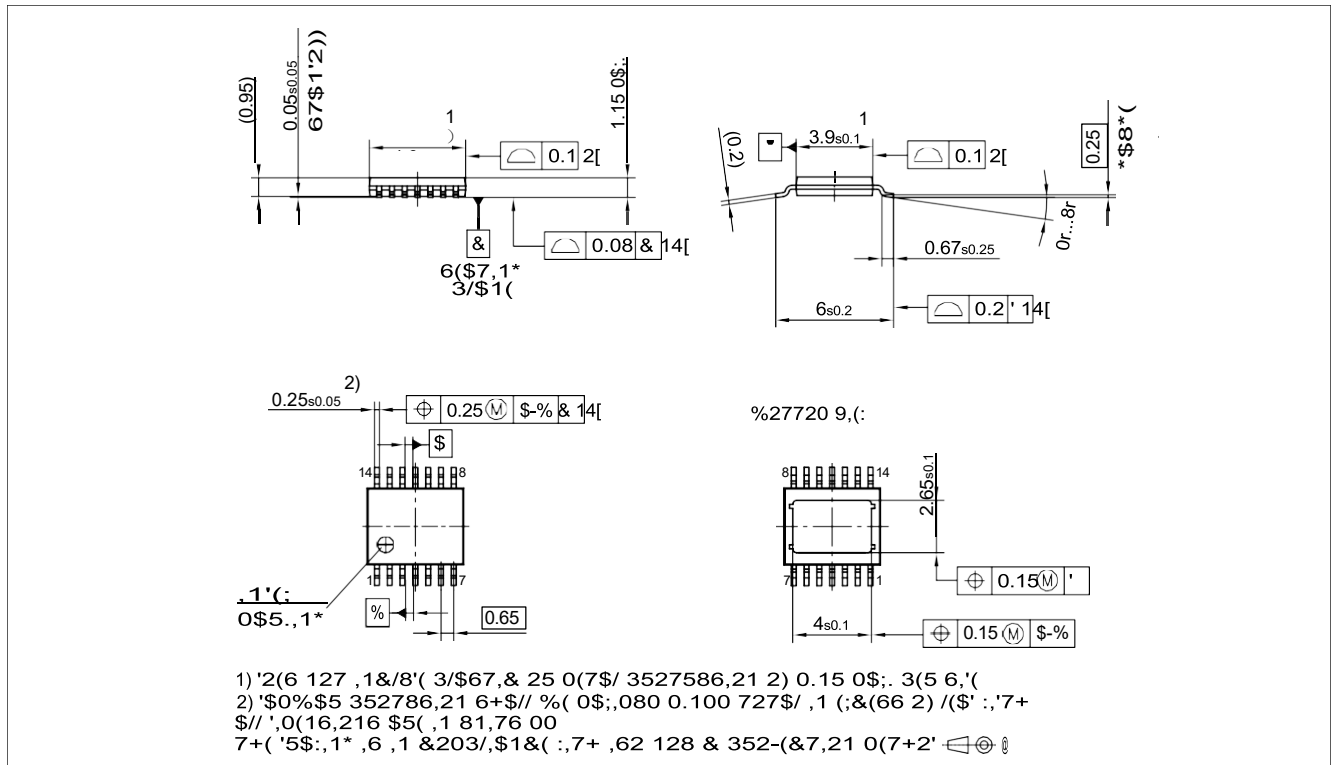
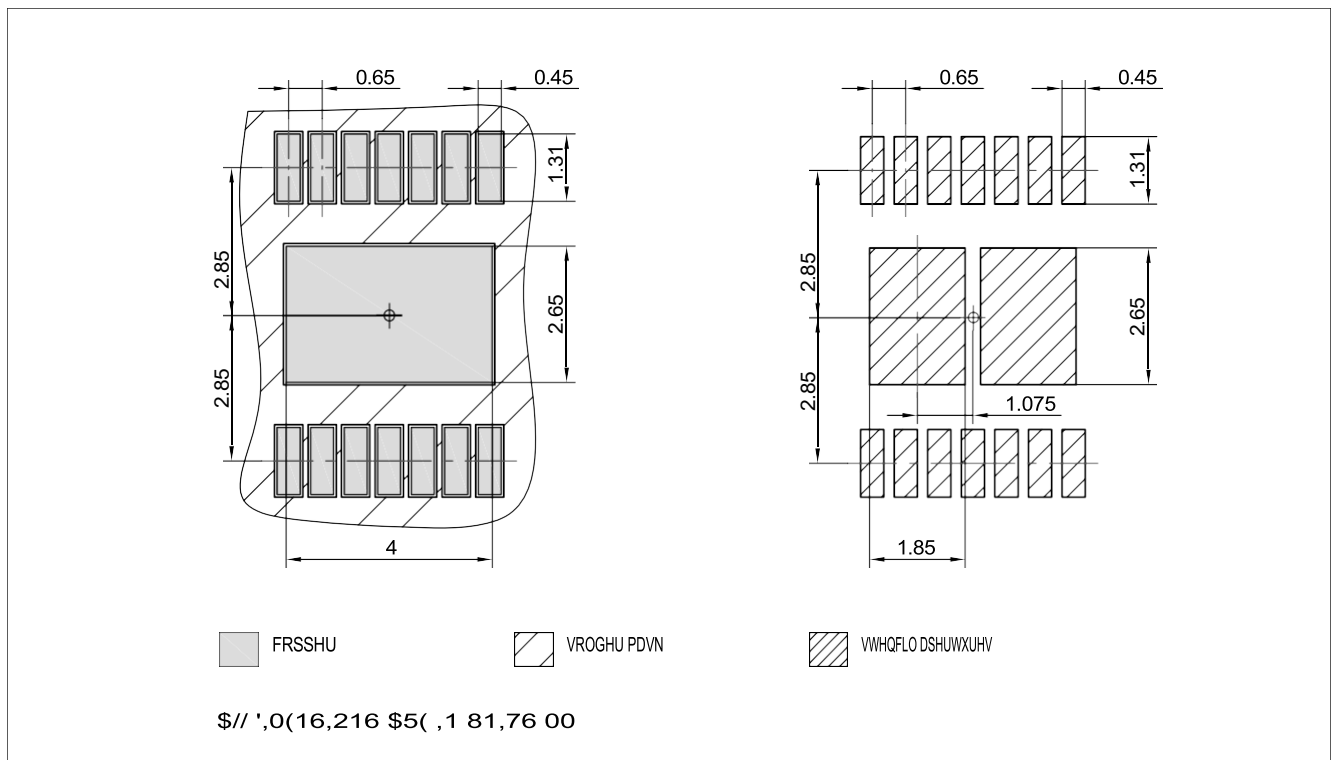

Figure 43 PG-TSDSO-14 (Thin (Slim) Dual Small Outline 14 pins) Package Outline
Figure 44 PG-TSDSO-14 (Thin (Slim) Dual Small Outline 14 pins) Package pads and stencil
1.01, 2019-06-26	<p>Chapter 9.2 updated ($2\text{ V} \rightarrow V_{DS(OLOFF)}$)</p> <p>General: updated (ReverSave™ \rightarrow ReverseON) Figure 1 updated</p> <p>Chapter 1 updated ((inserted headline "Product Validation"), (Qualified in accordance with AEC Q100 grade 1 \rightarrow Qualified for automotive applications. Product validation according to AEC-Q100 Grade 1.))</p> <p>General: updated Product Name (PROFET™+2 \rightarrow PROFET™+2 12V)</p> <p>Page 1: updated figure product</p> <p>Table 23 updated punctuation</p> <p>Chapter 9.3.1 updated (typo)</p> <p>Page 1: updated (Package PG-TSDSO-14-22 \rightarrow Package PG-TSDSO-14)</p> <p>Figure 29 updated</p> <p>Figure 43 updated (PG-TSDSO-14-22 (Thin (Slim) Dual Small Outline 14 pins) Package Outline \rightarrow PG-TSDSO-14 (Thin (Slim) Dual Small Outline 14 pins) Package Outline)</p> <p>Figure 44 updated (PG-TSDSO-14-22 (Thin (Slim) Dual Small Outline 14 pins) Package pads and stencil \rightarrow PG-TSDSO-14 (Thin (Slim) Dual Small Outline 14 pins) Package pads and stencil)</p> <p>Table 1 updated ((Symbol: $I_{VS(SLEEP)} \rightarrow I_{VS(SLEEP_85)}$), (Parameter: Minimum Overvoltage protection ($T_J = 25\text{ }^\circ\text{C}$) \rightarrow Minimum Overvoltage protection ($T_J \geq 25\text{ }^\circ\text{C}$))</p> <p>P_9.6.0.6 updated (Note or Test Condition: removed unnecessary line-break)</p>